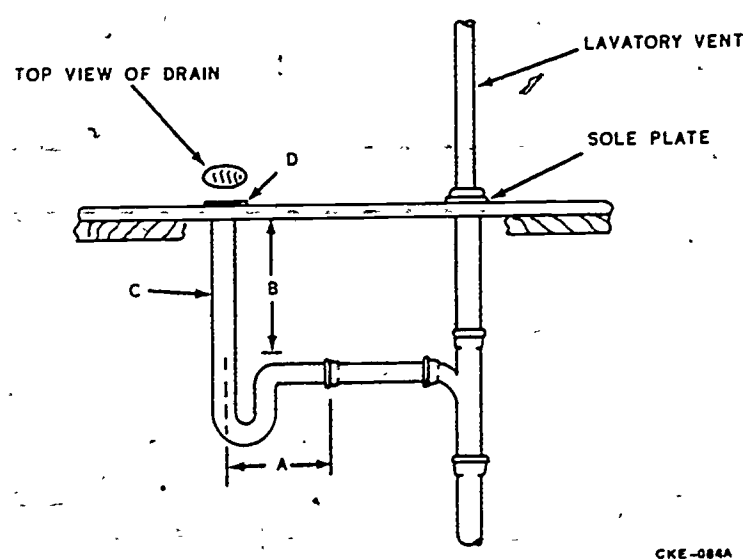

Figure 13
1. Extend a plumb bob through the floor drain opening as shown in figure 13.
3. Determine the horizontal span of the trap as shown by "A" in figure 13. Record this measurement _____
8. Determine the length of pipe needed to connect the trap to the floor drain as shown by "B" in figure 13.
10. Install the 2" waste pipe between the trap and floor drain opening as shown by "C" in figure 13.